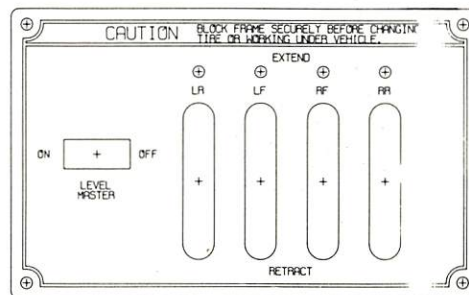

Figure 2-20. Leveling Jack Controls
Overall system operation is controlled and monitored at the leveling jack controls, while each jack is independently operated by one of four respective **EXTEND-RETRACT** levers located on the floor to the left of the driver, figure 2-20. A dash indicator and a buzzer (when ignition switch is on) provide visual and audible signals to show that the associated leveling jacks are not stowed to a safe travel position.
① Set **LEVEL MASTER** switch (see figure 2-20) to **ON** position. Note that the **LEVEL WARNING** indicator will light. **LEVEL SYSTEM** indicators **LF**, **RF**, **LR** and **RR** are lit only when the respective corner of the coach is low.
② De-pressurize the tag axle by setting **TAG DUMP** switch to **DUMP**; de-pressurize front and rear axle by setting associated **SUSP. DUMP** switch to **DUMP**.